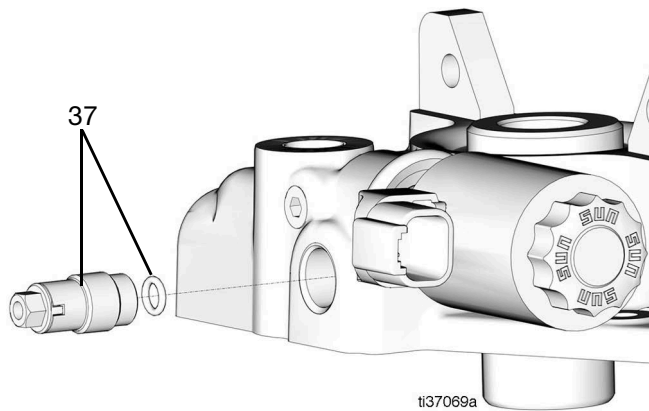

FIG. 49
35. Remove and discard the check valve and o-ring (37) (FIG. 49).